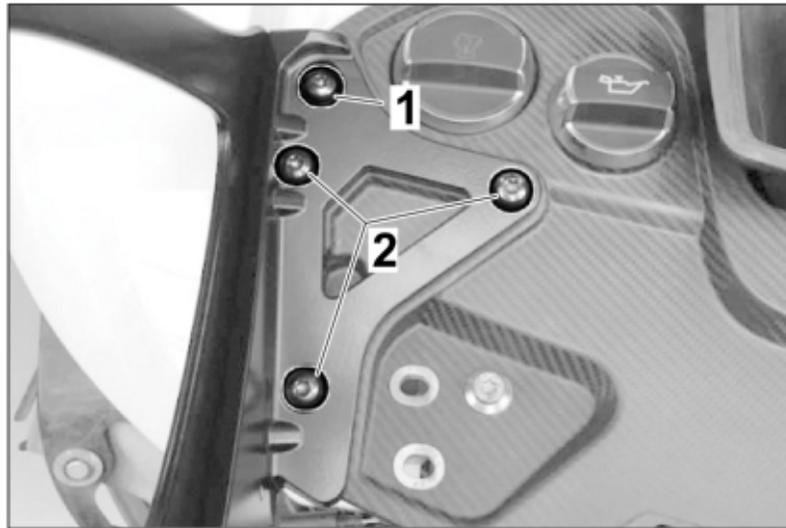

Figure 61
31. – Position the new wing support and fasten it with three M8 x 30 screws at the points ⇒ *Figure 61 -2-* shown and with an M8 x 60 screw at the upper fastening point ⇒ *Figure 61 -1-*. **Tightening torque: 30 Nm (22 ft-lb)**